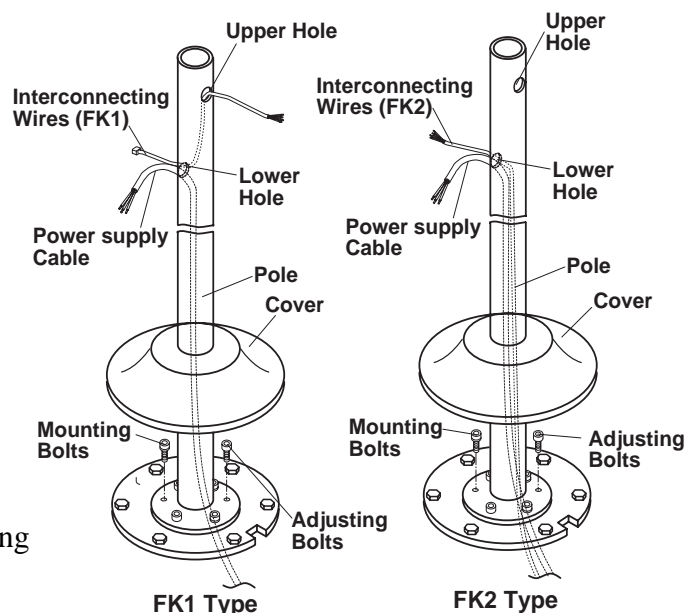

Fig.3-2 Fixing Pole & Cover
(Fig.3-2)
After setting the cover to the pole, pass through the power supply cable and interconnecting wire in the lower hole (for main controller) on the pole. (Fig.3-2)
3. Attach the pole to the mounting plate by three mounting bolts. Make the pole vertical by adjusting three adjustment bolts and three mounting bolts. Then set the cover to the pole. (Fig.3-2)